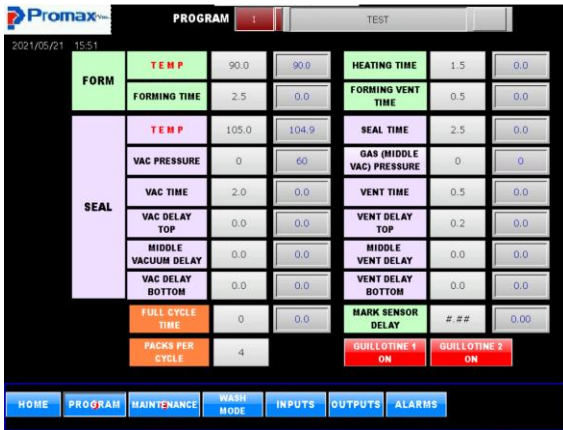

Fig.OP-5.25
-The program screen will appear (Fig. OP-5.25 below).